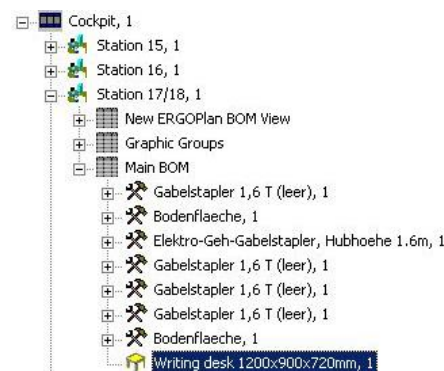

Figure 77: Aim - Splay Working Table in Station 17/18
- 3) The new structure is assigned to the object. The old position in the graphic remains unaffected. Please refer to the Figure 77.